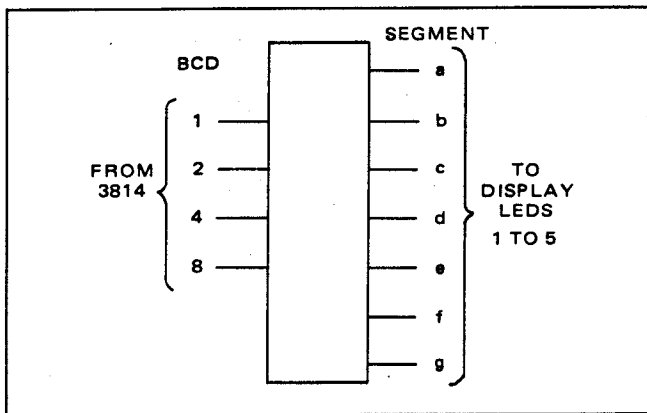

Figure 4.16 - 4-to-7 Line Decoder
4.3.15.1 The 4-to-7 line decoder is shown on figure 4.16. This device is simply a matrix decoder that converts BCD code to 7-line code for display purposes. It's driven by the BCD code from the 3814 counter chip and its 7-line output is tied in parallel to all of the display LEDs.